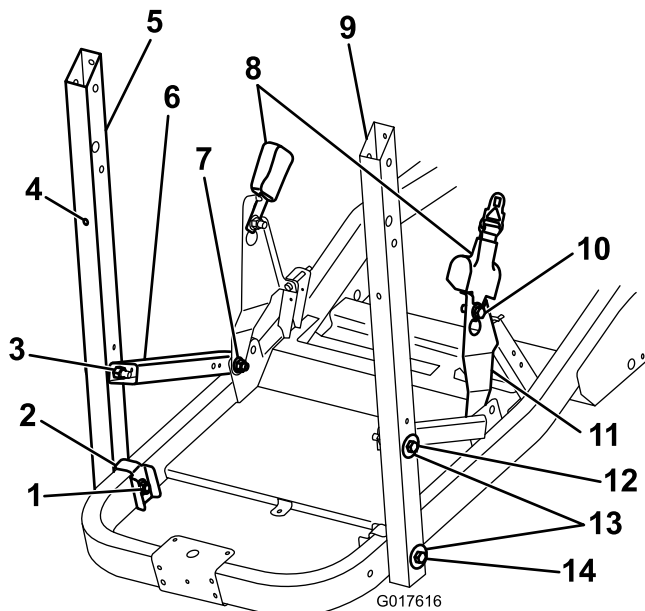
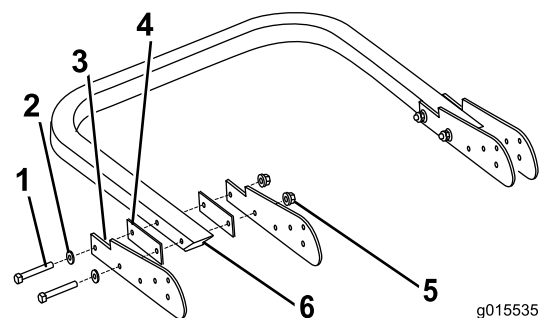

Figure 1
Figure 2
1. Loosely secure the brace and seat belt bracket to the frame with a bolt (1/2 x 1-1/4 inches) and locknut (Figure 1) allowing it to swing freely.
2. Loosely attach the rollbar support and reinforcing bracket to the frame using a bolt (1/2 x 4-1/2 inches), washer, and locknut as shown in Figure 1.
3. Attach the brace to the rollbar support with a bolt (1/2 x 3-1/2 inches), washer, and hex nut (Figure 1).
4. Attach the seat belt assembly to the seat belt bracket with a flange-head bolt and locknut (Figure 1).
Assemble the pivot brackets to the rollbar as shown in Figure 2. Leave the bolts loose enough that the parts are free to shift around.
1. Tighten the fasteners in the order specified in the following table. Use Figure 1 and Figure 2 to help identify the parts.
2. If necessary, install both small rubber bumpers. Press the small flange on the back of each into the holes on the back of the rollbar supports (Figure 1).